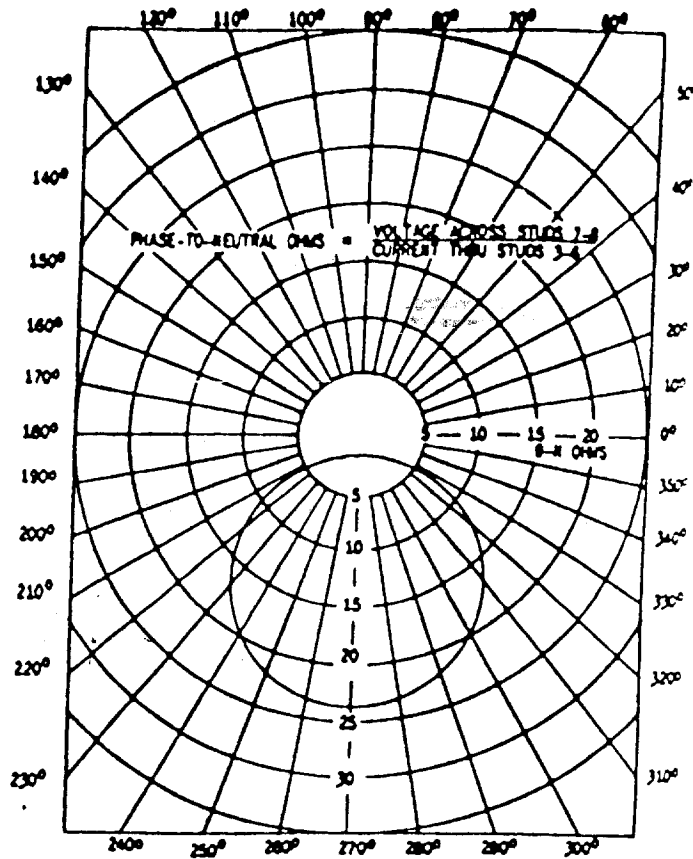

Fig. 7 (402A977-1) Characteristics Of Type CEH11A Relay With 2-Ohm (Phase-to-Neutral) Offset And 2% Percent Tap Setting
3. Draw relay characteristic on polar paper with center at 90 degrees lead using distance from origin and diameter calculated above. (See Fig. 7).